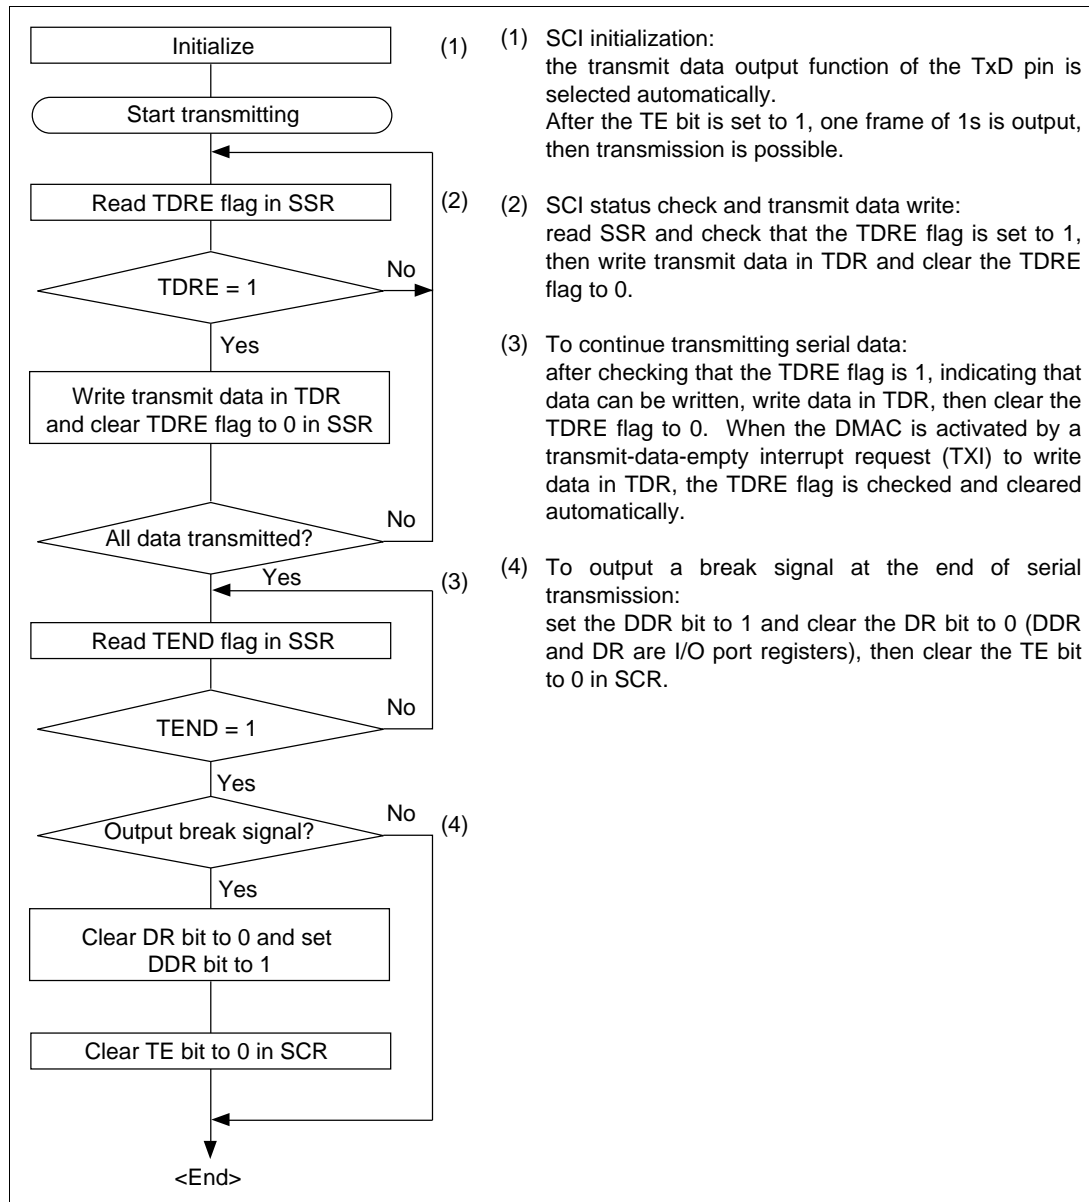

Figure 13.5 Sample Flowchart for Transmitting Serial Data
- Transmitting Serial Data (Asynchronous Mode): Figure 13.5 shows a sample flowchart for transmitting serial data and indicates the procedure to follow.